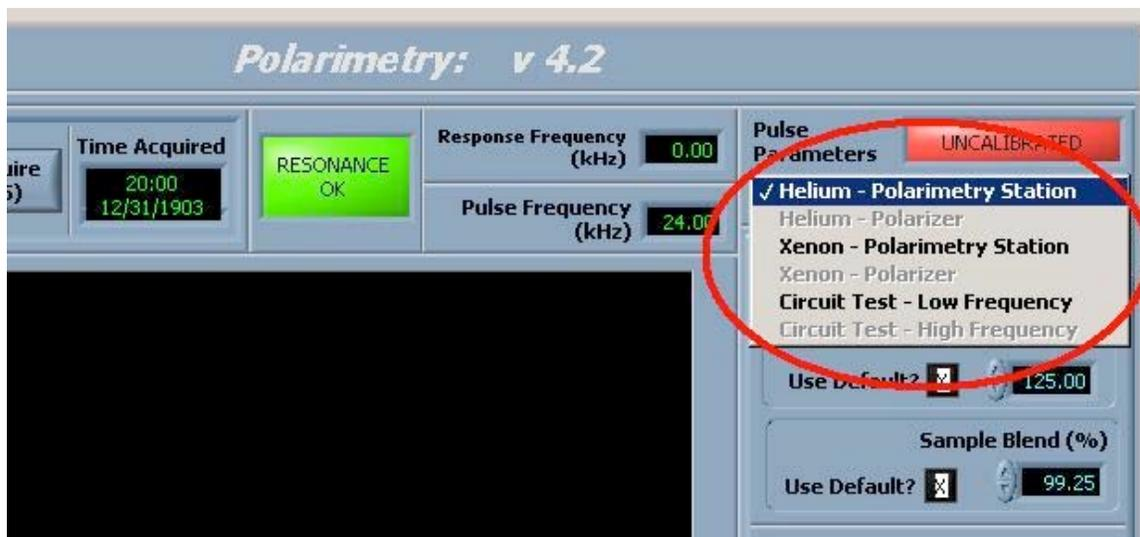

Figure 1: Selection of the gas type in the Polarimetry software
3. Verify that the setting in the Polarimetry software is the same as for the gas type being identified (i.e. “Helium – Polarimetry Station” for ^3He and “Xenon – Polarimetry Station” for ^{129}Xe .) If it is not, click the text and select the correct setting from the drop-down menu (see **Figure 1**).
4. Verify that the setting in the Polarimetry software is the same as for the gas type being measured (i.e. “Helium – Polarimetry Station” for ^3He and “Xenon – Polarimetry Station” for ^{129}Xe .) If it is not, click the text and select the correct setting from the drop-down menu (See **Figure 1**).
2. Change the setting in the Polarimetry software for the gas type to be "Circuit Test - Low Frequency". To make the change, click the text and select the correct setting from the drop-down menu (See **Figure 1**).
3. Change the setting in the Polarimetry software to be the same as for the gas type being measured (i.e. “Helium – Polarimetry Station” for ^3He and “Xenon – Polarimetry Station” for ^{129}Xe .) To make the change, click the text and select the correct setting from the drop-down menu (See **Figure 1**).